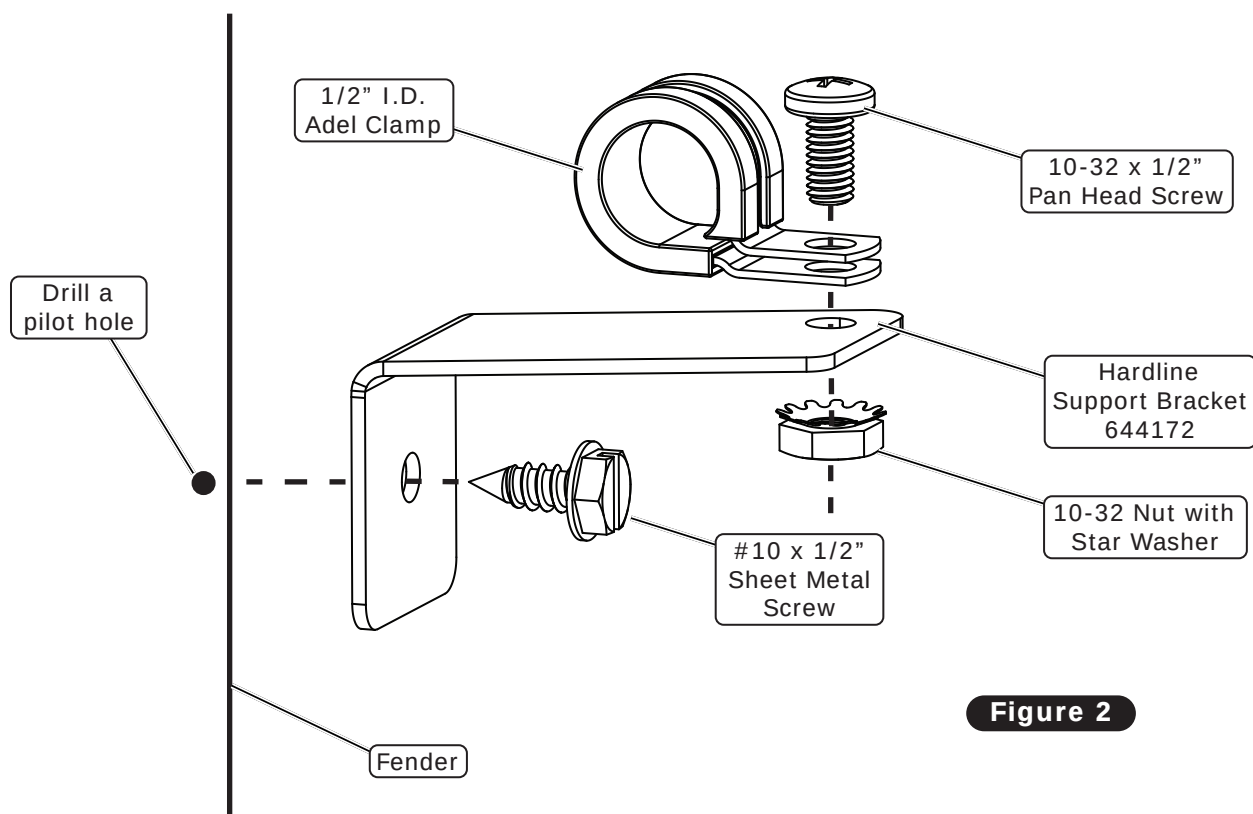

Figure 2
10. Secure the hardline to the inner fender well using the bracket and Adel clamp with provided hardware, See Figure 2 and Photo 14, below.